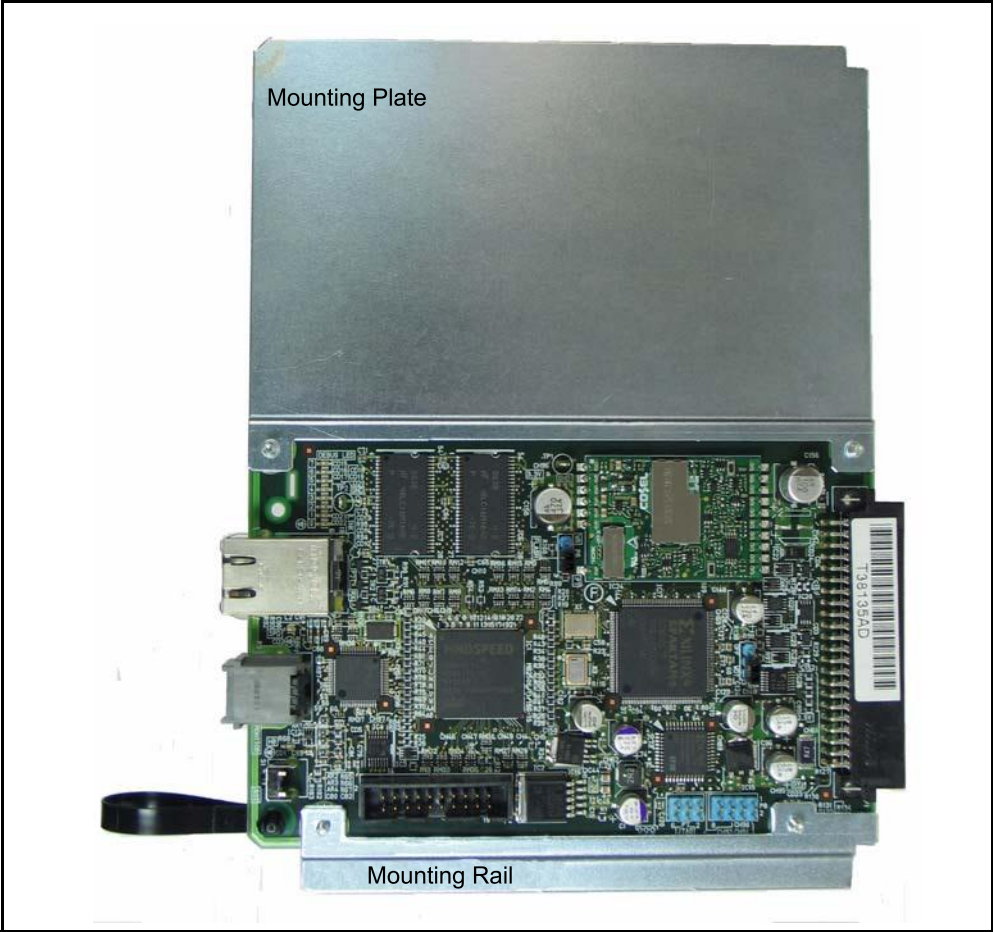

Figure 1 MIPU16/24 With Metal Plates for Mounting in CIX100, CIX200, and CIX670
- Compatible in CIX100, 200, and 670 systems (refer to Figure 1)